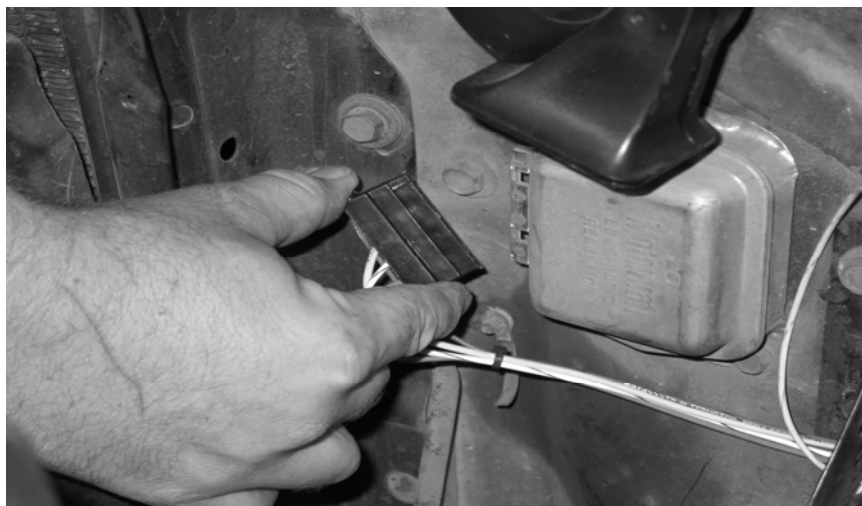

Figure 7-3 Voltage Regulator Connection '67-'77 Models
- 7.1.3 Locate the Voltage Regulator Connector in the PASSENGER SIDE SECTION and plug it into the Voltage Regulator, which is on the passenger's side engine compartment on the core support. **Note: It is critical to have the Voltage Regulator's housing grounded for proper operation.** See Figure 7-3.